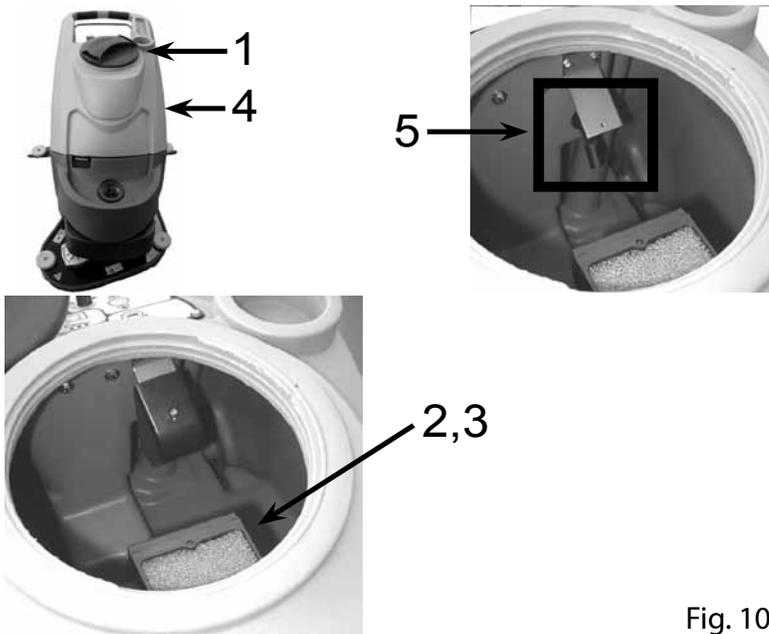

Fig. 10
**IMPORTANT:** When washing the dirty water drum, never remove the suction filter (fig. 10, ref. 2) from its housing and never direct the jet of water against the filter itself.
- Unscrew and remove the tank cap (fig. 10, ref. 1) from the dirty water drum (fig. 10, ref. 4);
- Make sure the dirty water drum (fig. 10, ref. 4) is empty;
- Clean the float switch (fig. 10, ref. 5) at the back of the dirty water drum, taking care not to direct the water jet directly against the float switch;
- Remove the suction motor air filter (fig. 10, ref. 2) from the float switch support (fig. 10, ref. 3) inside the dirty water drum at the top;